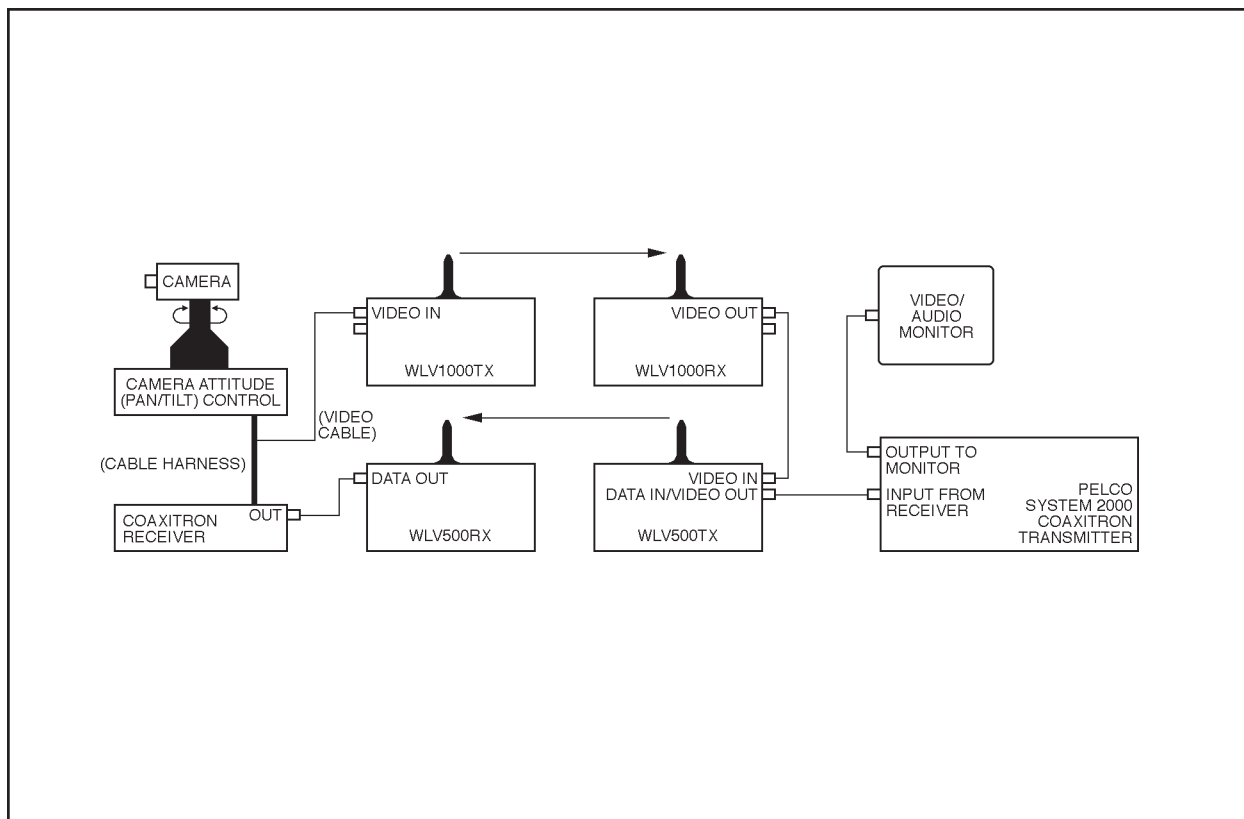

Figure 1. Typical WLTV1000 Video/WLTV500 Control Link System Configuration
1. Refer to Figure 1. The output port labeled “**INPUT FROM RECEIVER**” of the Coaxitron System 2000 transmitter should be connected to the BNC connector indicated on the label as “**DATA IN/VIDEO OUT**” of the WLV500TX control link transmitter. The video signal that originated from the WLV1000RX wireless video receiver (or directly from a camera or other video source) should be connected to the BNC connector labeled “**VIDEO IN**” of the WLV500TX. The port labeled “**OUTPUT TO MONITOR**” of the Coaxitron System 2000 transmitter should be connected to a video monitor.
3. The wall mounted power supplies (15 VDC) included in the system should be connected to the power strips of each unit labeled “**11-16 V**”. The striped lead with a red connector should be connected to the positive “+” terminal and the ground lead with the black connector should be connected to the negative “-” terminal. The power supplies should then be plugged into a 120 volt (AC) power outlet.